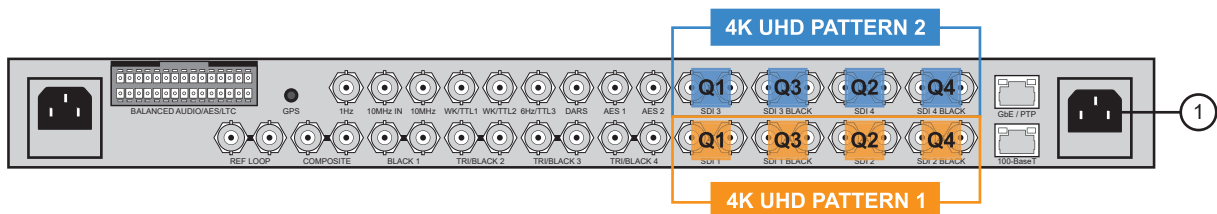

Figure 14.1 SRG-4500 Rear Panel — 4K UHD Connections
Figure 14.1 shows the location of each Quadrant (Q) BNC for the two possible 4K UHD outputs.